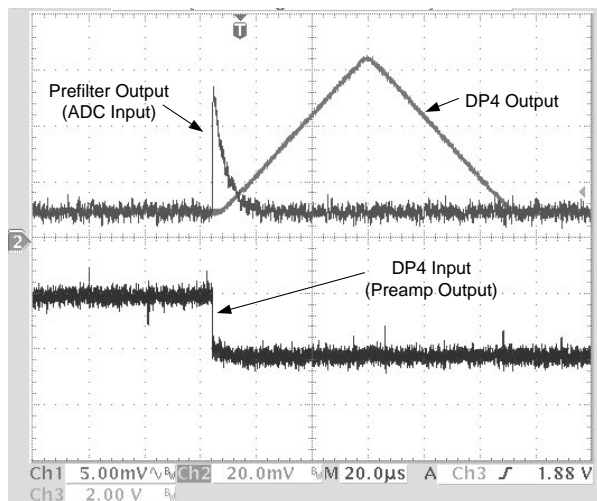

Figure 11. Oscilloscope traces obtained on the DP4, illustrating normal operation. The “prefilter output” is measured at the AMP3 test point.
- 4) Using an oscilloscope probe, measure the signal at the test point labeled AMP3. It should look like the trace in Figure 11. This is the input to the ADC, prior to the shaping. It is critical that this have (1) a DC offset of about 200 mV, only going negative during resets, (2) a maximum amplitude of about 1 V per pulse, and (3) a fall time of 3.2 usec.
- 5) Use the oscilloscope to compare the DP4 shaped output (J2) with the PX2 shaped output. The two traces are shown in Figure 11.